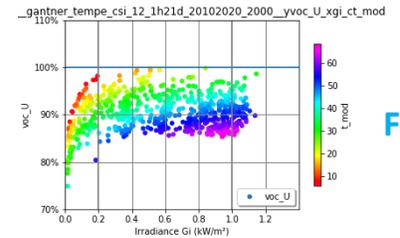

Fig 2
4. Get xaxis and colour axis (Gi, Tmod, datetime) for fig 2
8. Plot MLFM vs. t_module, irradiance, datetime with colours (Fig 2)